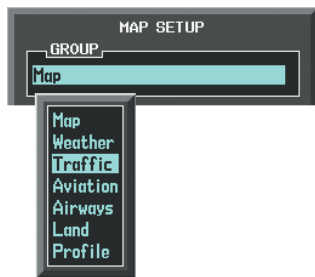

Figure 6-181 Navigation Map Page Setup Menu
- 4) Turn the small **FMS** Knob to select the Traffic Group and press the **ENT** Key (Figure 6-181).